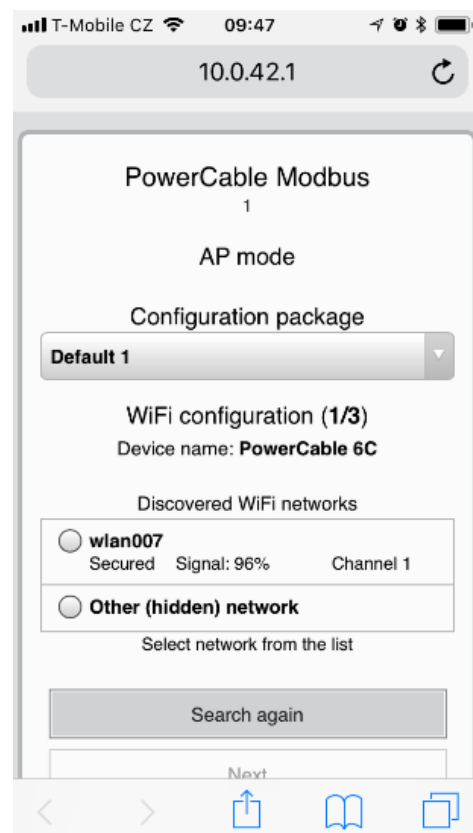

Figure 23 - Web Interface in AP mode
- Device configuration page should open automatically. If not, open a web browser and enter <http://10.0.42.1> You will see NETIO PowerCable WiFi configuration page. (*Figure 23*).